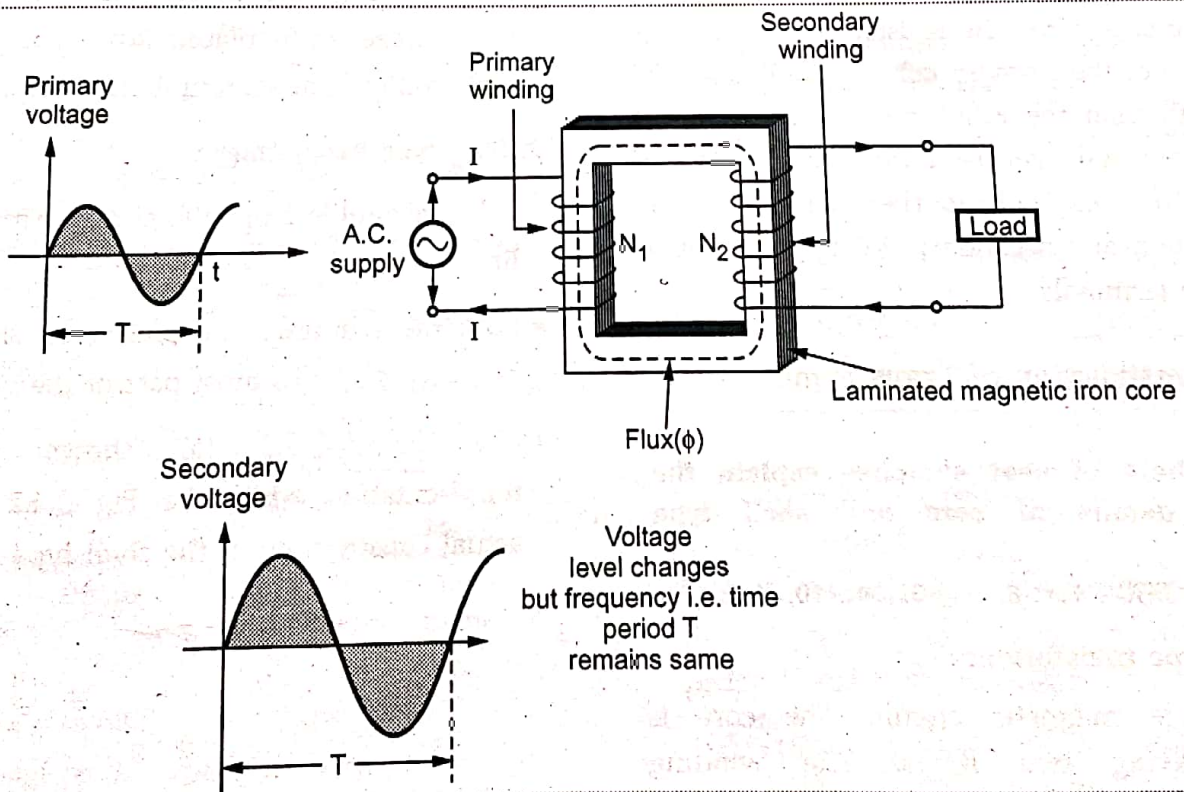

Fig. Q.2.1 Basic transformer
- In its elementary form, it consists of two inductive coils which are electrically separated but linked through a common magnetic circuit. The two coils have high mutual inductance. The basic transformer is shown in the Fig. Q.2.1.
- This current produces an alternating flux (ϕ) which completes its path through common magnetic core as shown dotted in the Fig. Q.2.1. Thus an alternating flux links with the secondary winding.